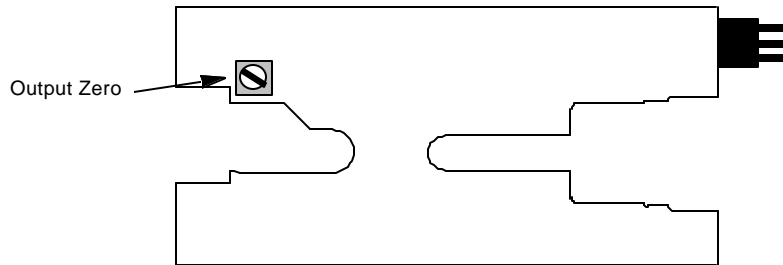

Figure 8-2 Adjustment Locations
6. Adjust **OUTPUT ZERO** on the board until the DMM reads 0 V $\pm 100 \mu\text{V}$. Refer to figure 8-2 for adjustment location.